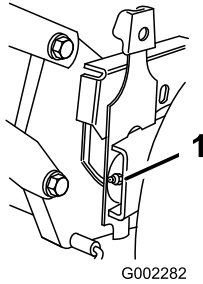

Figure 24
2. Wipe the grease fittings with a clean rag (Figure 24).
3. Install a grease gun onto the fitting and gently apply 2 or 3 pumps of #2 multi-purpose lithium base grease (Figure 24).